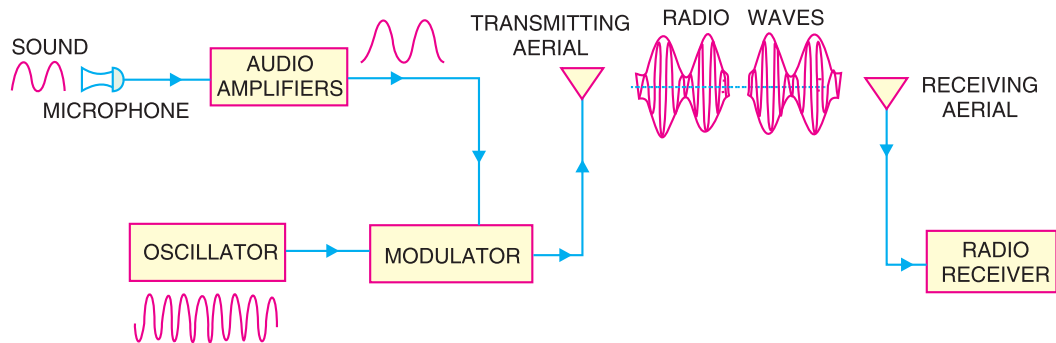

Fig. 16.1
Radio communication means the radiation of radio waves by the transmitting station, the propagation of these waves through space and their reception by the radio receiver. Fig. 16.1 shows the general principles of radio broadcasting, transmission and reception. As a matter of convenience, the entire arrangement can be divided into three parts viz. *transmitter*, *transmission of radio waves* and *radio receiver*.
1. Transmitter. Transmitter is an extremely important equipment and is housed in the broadcasting station. Its purpose is to produce radio waves for transmission into space. The important components of a transmitter are microphone, audio amplifiers, oscillator and modulator (See Fig. 16.1).
(iii) **Oscillator.** The function of oscillator is to produce a high frequency signal, called a *carrier wave*. Usually, a crystal oscillator is used for the purpose. The power level of the carrier wave is raised to a sufficient level by radio frequency amplifier stages (not shown in Fig. 16.1). Most of the broadcasting stations have carrier wave power of several kilowatts. Such high power is necessary for transmitting the signal to the required distances.